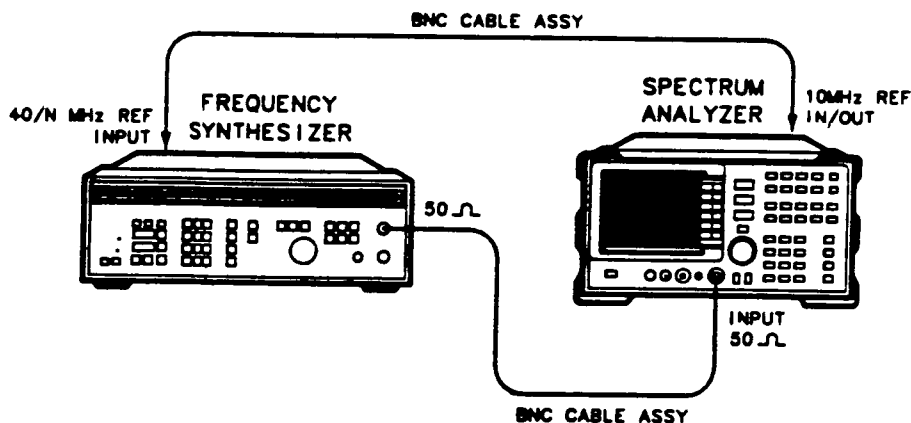

Figure 3-5. Resolution Bandwidth Accuracy and Selectivity Test Setup
- Connect the equipment as shown in Figure 3-5. The HP 8562A/B provides the frequency reference for the HP 3335A.